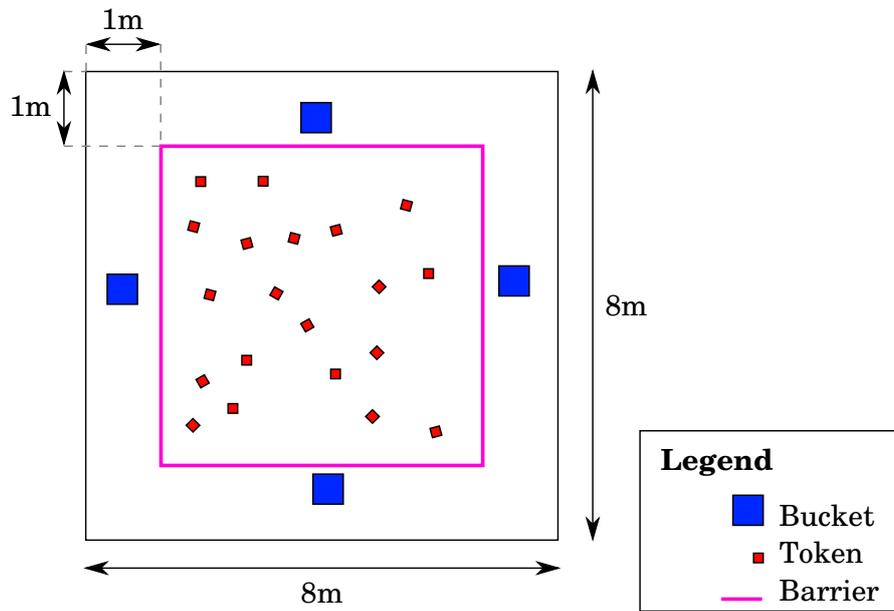

Figure 3: A bird's-eye view of the arena.
- 3.3.1 The match arena floor, overall, is an  $8m \times 8m$  square, as shown in figure 3. The tolerance of these two dimensions is  $\pm 0.25m$ .